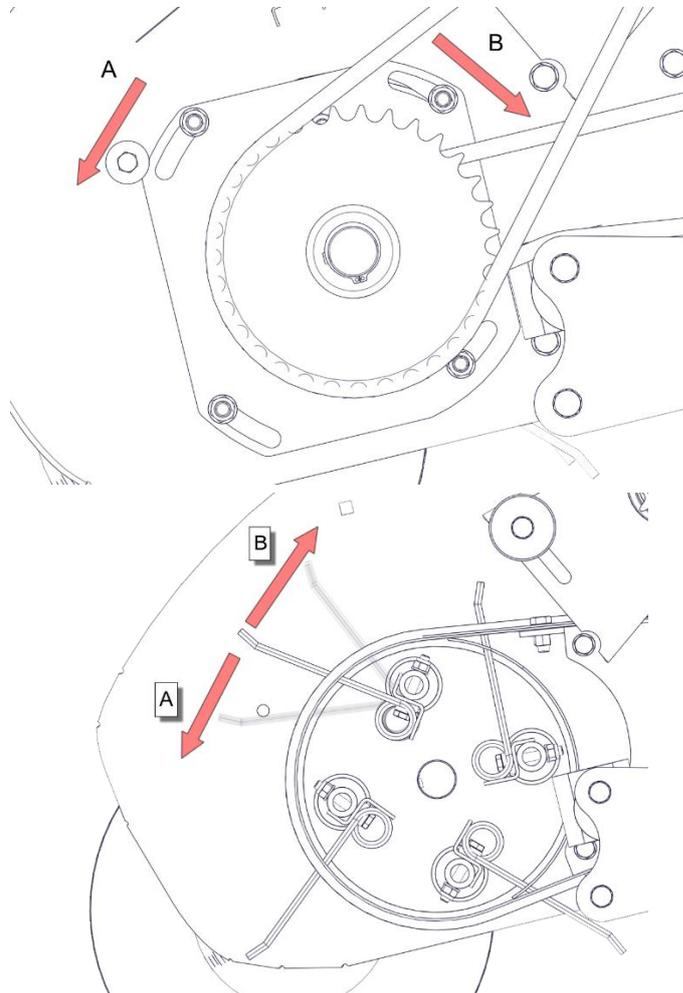

Figure 22. Pick-up cam adjustment
- Adjust the cam position; turn it to move the pick-up tine closer to or farther from the transmission device. Rotate the cam (**Fig. 22**):